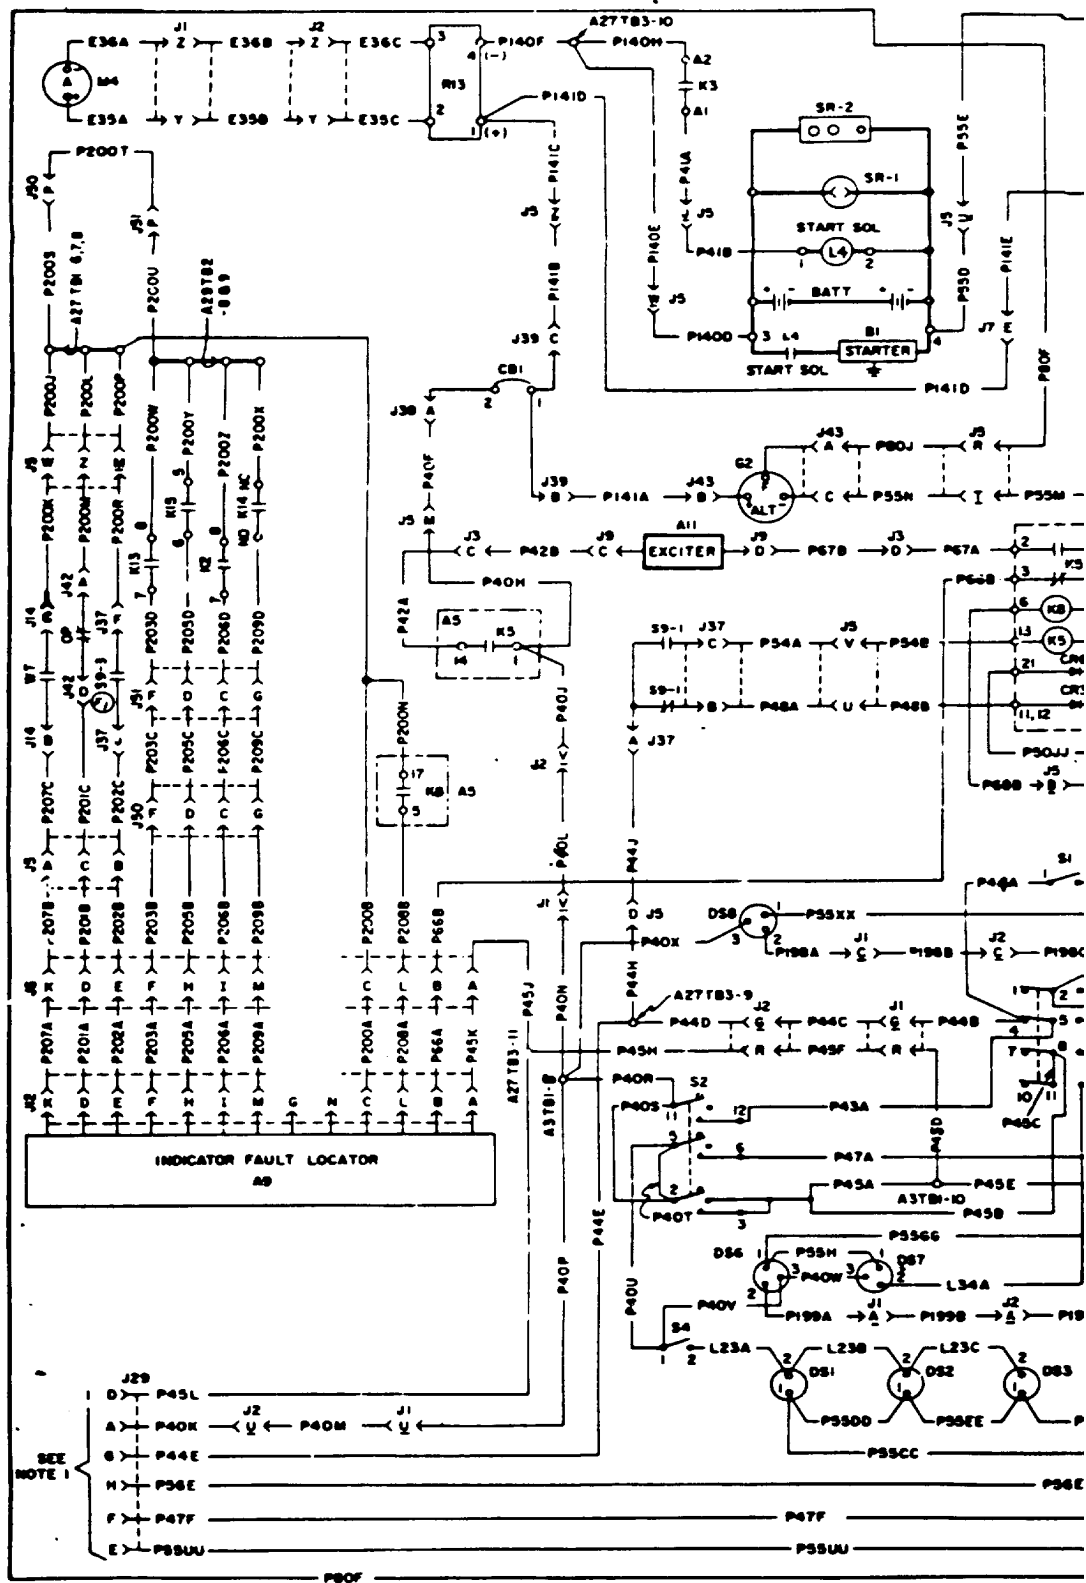

Figure 2, DC Troubleshooting Diagram.
- Use your schematic diagram Figures 2,3,&4 which gives you a simplified extracted crank circuit to extract the crank circuit on the troubleshooting diagram.
- Trace the circuit on the DC Troubleshooting diagram Figures 2,3, &4 from the schematic diagram.
- The troubleshooting diagram Figures 2,3 &4 gives a multitude of information about the circuit.